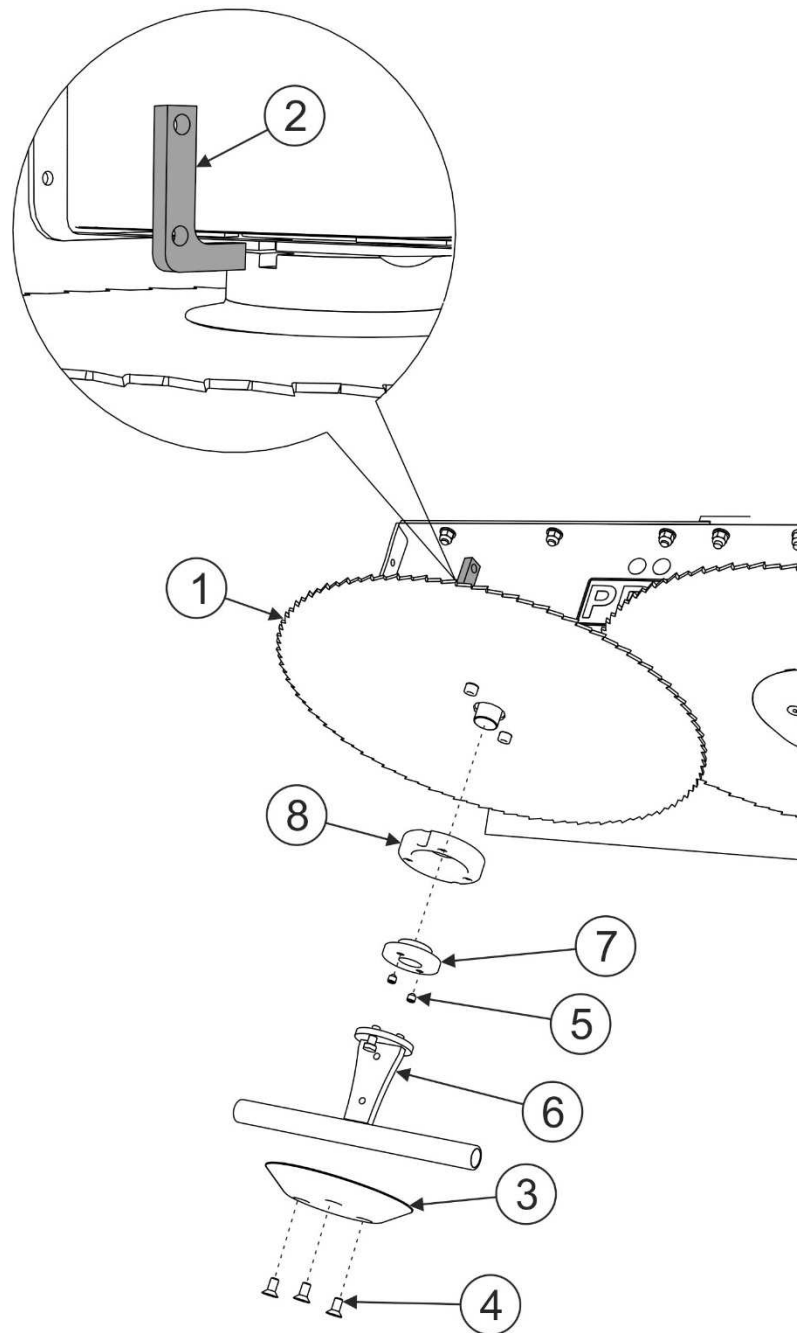

FIGURE 5.2 Replacement of circular saw blades
In order to replace the circular saw blade proceed as follows (FIGURE 5.2):
(1)- circular saw blade; (2)- wrench I; (3)- protective cover; (4)- screws fixing the cover; (5)- set screws; (6)- wrench II; (7)- clamp nut; (8)- clamp;
When replacing the circular saw blade (1) (FIGURE 5.2), pay attention to condition of clamp nut (7) that fixes the circular saw blade to the shaft. Damaged nut fixing the circular saw blade should be replaced with a new one of the same type.